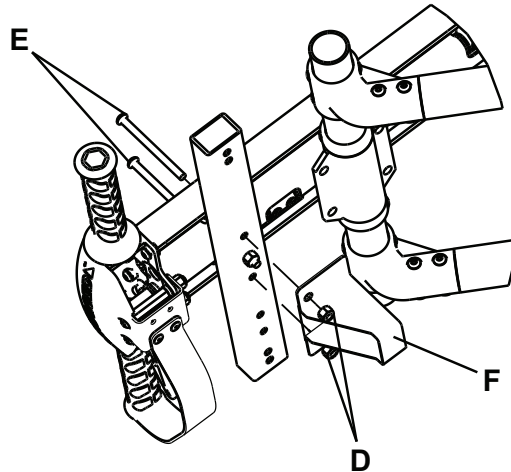

Figure 7 – Guide bracket
- a. Using an M4 Allen key and M11 spanner, remove the two Fiberlock hex nuts (D) from the two hex socket head cap screws (E) at the foot end of the cot (Figure 7). Save the nuts and screws.
- b. Place the supplied guide bracket (F) (610000010008) over the two hex socket head cap screws (saved in step 3a) (Figure 7). Using a torque wrench, secure with the Fiberlock hex nuts (D) (removed in step 5a).